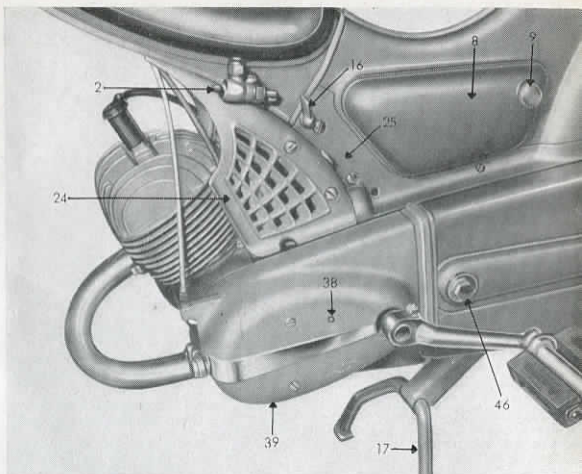

Fig. 5
1. **To clean the air cleaner** take off the carburetor casing 24 (Fig. 5) on the left side of the cycle and also the frame panel 25 next to the tool box 8 after removing four slotted head screws. The air cleaner can then easily be lifted out. It should be washed in gasoline, dried and dipped in thin motor oil. Excessive oil is removed by vigorous shaking.
#### 8. **Checking the Transmission Oil Level** (Fig. 5)
#### 9. **The Carburetor** (Figs. 5 and 6)